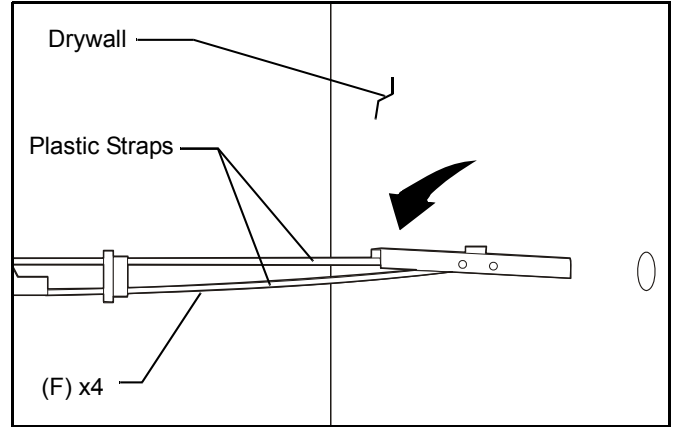

Figure 3
6. Hold metal channel on anchor (F) flat alongside plastic straps and slide channel through hole. (See Figure 3)